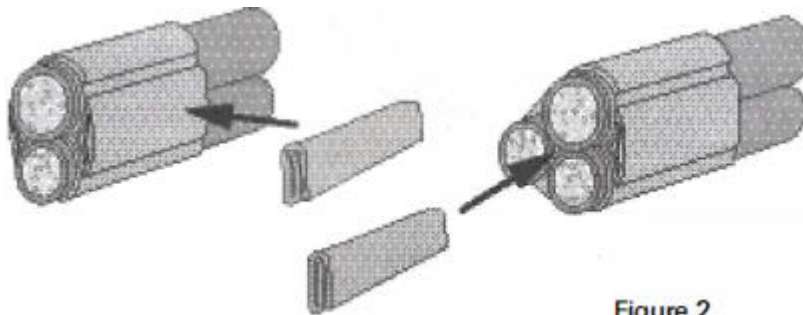

Figure 2
2. For branch ends. cut and fold two 2" strips of sealant. Press the branch cable sealant collar against the main cable sealant collar. then place one folded strip on each side of the branch area as shown. Compress the sealant to eliminate voids. If you have 3 cables out, arrange them in a triangle shape, and be sure to place a folded strip of sealant in the middle of the triangle. (Figure 2).